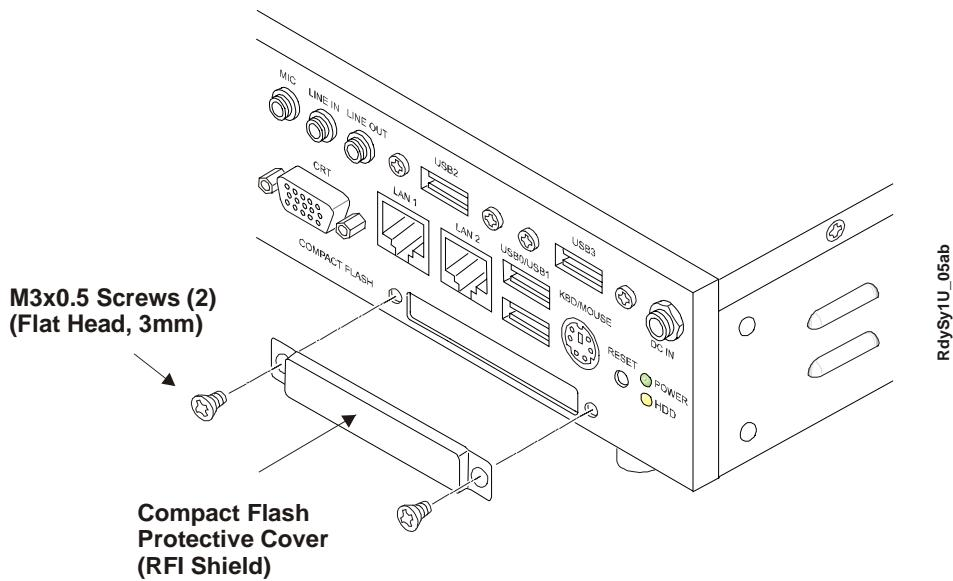

Figure 2-1. Removing Compact Flash Protective Cover
4. Use a Phillips screwdriver to remove the compact flash cover and place the two screws in a safe place for use later. See Figure 2-1.
- If your application or environment requires protection of the compact flash card, for security or EMI protection, you can re-install the protective cover over the compact flash card. See Figure 2-1. Reconnecting the protective cover will provide full EMI protection.